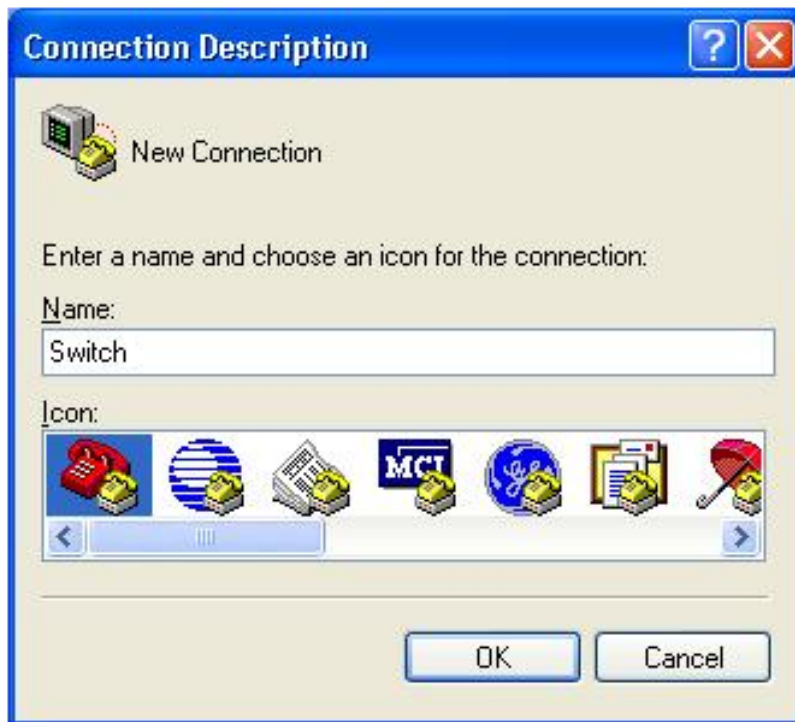

Figure 29 Creating a Connection
Step 3: Create a connection "Switch", as shown in Figure 29.